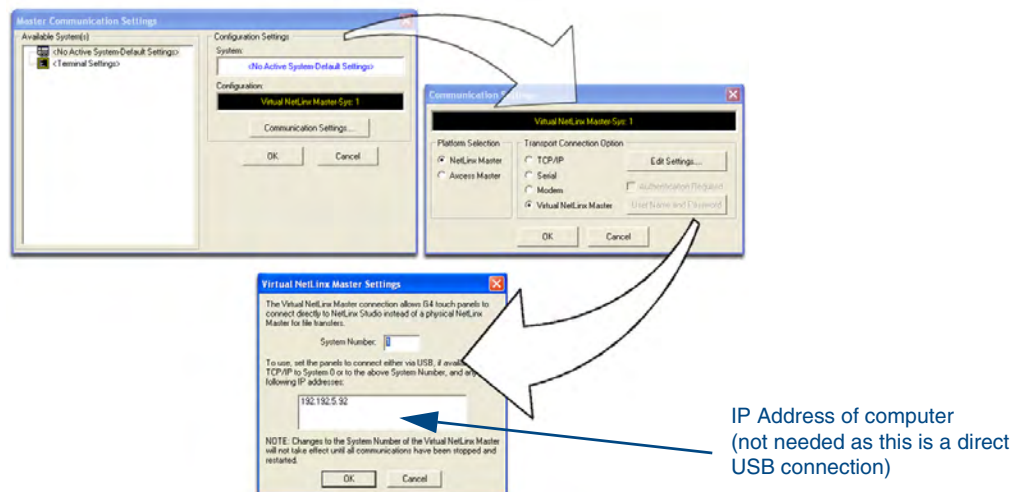

FIG. 28 Assigning Communication Settings for a Virtual Master
2. In NetLinx Studio, select **Settings > Master Communication Settings**, from the Main menu to open the Master Communication Settings dialog (FIG. 28).
6. Click the **Edit Settings** button to open the *Virtual NetLinx Master Settings* dialog (FIG. 28).